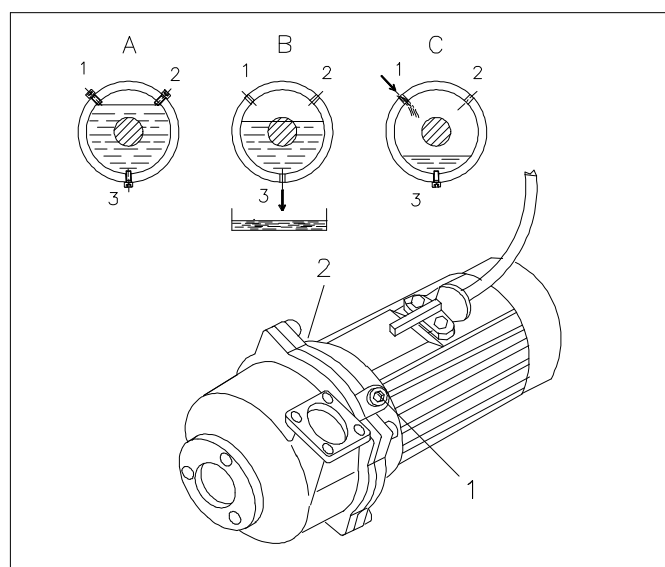

Fig. 7.5
Put the pump in a horizontal position so that the drain plug (3) is at the bottom (Fig.7.5 position A).
(Fig.7.5 position A).